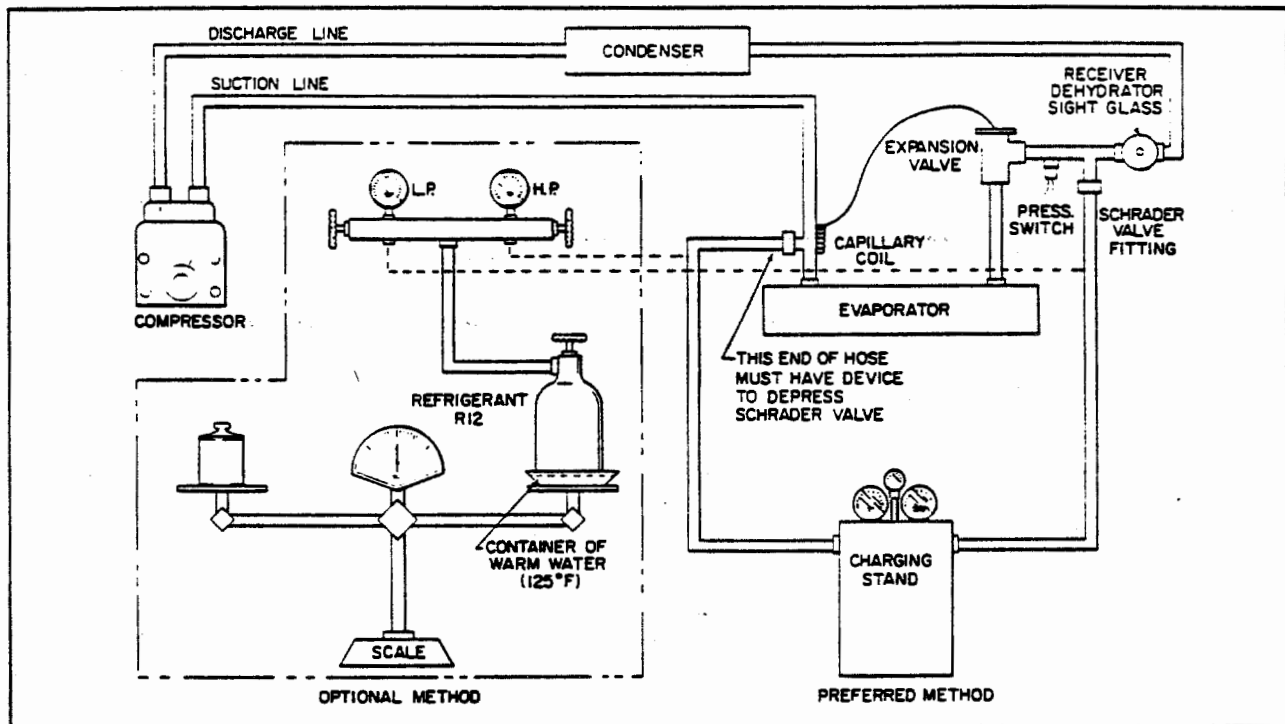

Figure 14-8. Charging Hookup
- a. With the system discharged and evacuated, proceed to hook-up the charging stand. (Refer to Figure 14-8.)
- a. With the system evacuated as outlined in Paragraph 14-13, connect the refrigerant charging hose to the manifold (Refer to Figure 14-8) and purge the charging hose of air.
- b. Connect a charging hose to a refrigerant cylinder and also to the Schrader valve fitting on the suction line. (Refer to Figure 14-8.)